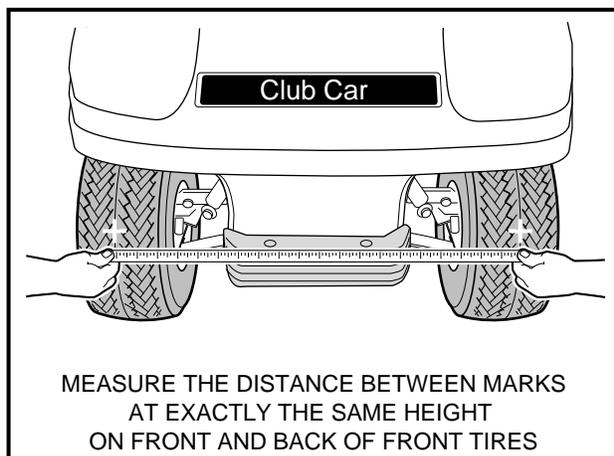

Figure 7-16 Check Toe-In
3. Measure the distance between the marks on the rear-facing surfaces of the tires, and then roll the vehicle forward one and one-half wheel revolutions until the marks appear on the forward-facing surfaces of the tires at about the same height from the floor (**Figure 7-16, Page 7-13**).